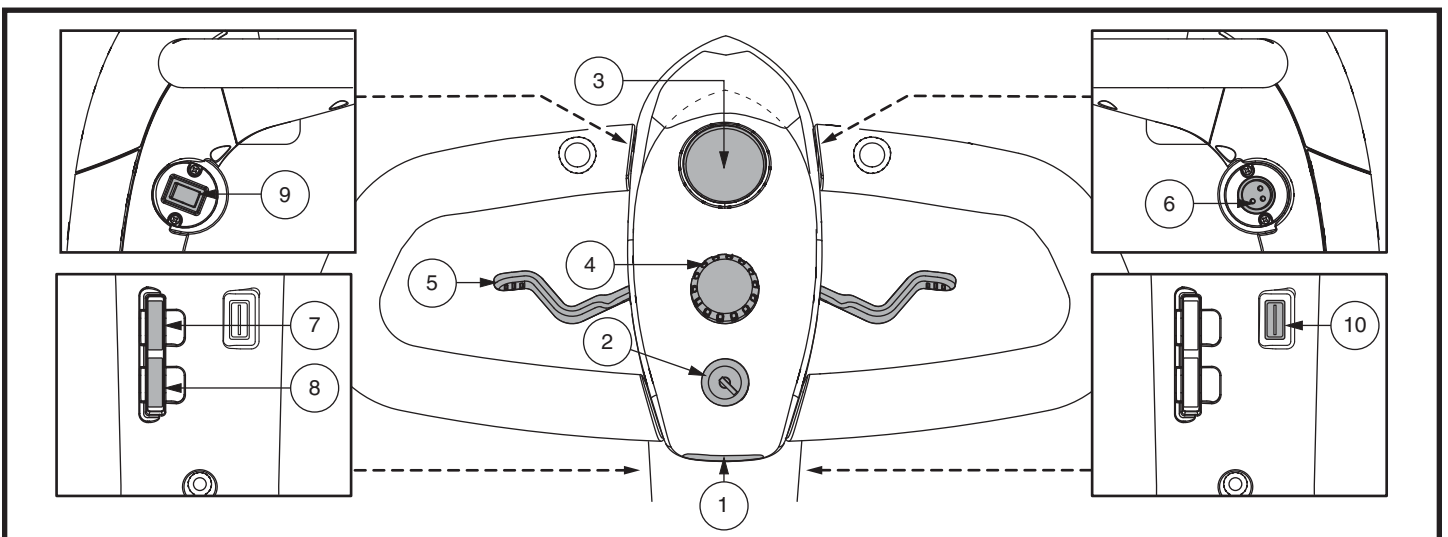

Figure 5. Tiller Console E (Model Jazzy ZTS)
*Charger Power Cord Receptacle (Tiller Port) also functions as a Programming Port in Tiller Consoles E and F (**see figures 5 and 6**).